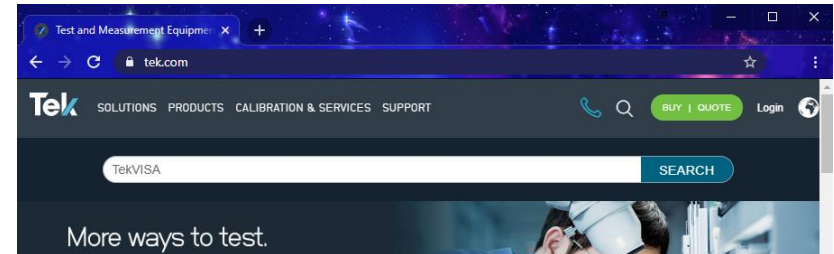

Figure 19. Search for TekVISA from [www.tek.com](http://www.tek.com)
2. To download TekVISA, please go to [www.tek.com](http://www.tek.com) and search for keyword “TekVISA” (Figure 19). NI-VISA is also compatible with the TBS1000C if you prefer to use NI-VISA.